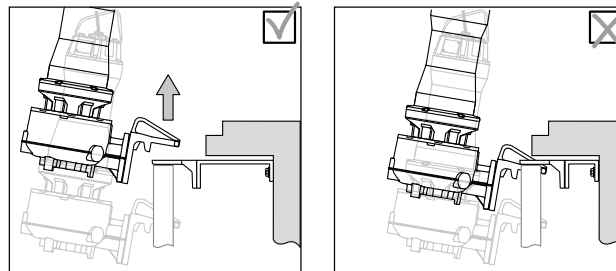

Fig. 11
**WARNING!** Before connecting the bracket spacer check, by lifting the pump up, if it is possible to extract the coupling flange from the pipe guides (Fig. 11).